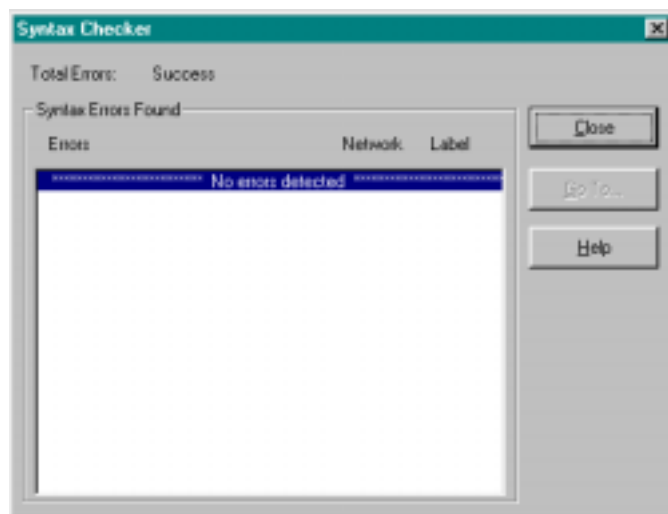

Figure 6.12a
1. Click **Syntax Checker** on the Diagnostics menu (Alt+D, Y). The Syntax Checker menu dialog box is displayed (Figure 6.12a).